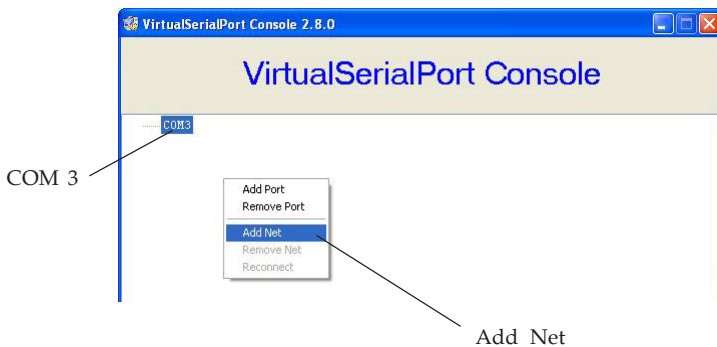

Figure 10
5. Click **Install this driver anyway** or **Continue Anyway**, then a COM port would be assigned. As Figure 10, the *Serial Device Server* is assigned to be COM 3.